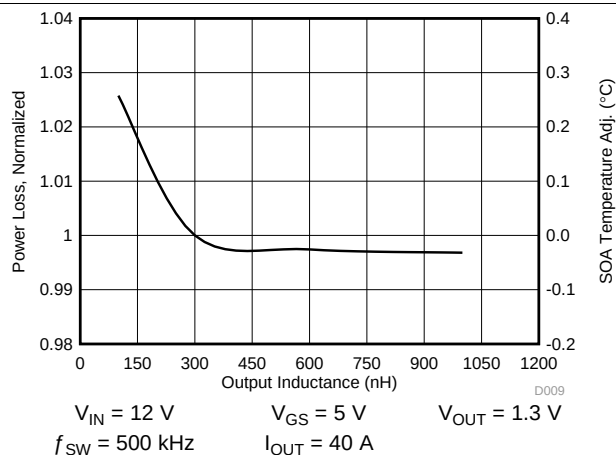

图 7. Normalized Power Loss vs Output Inductance
- Normalized power loss for output inductor ≈ 1 (图 7)
- SOA adjustment for output inductor $\approx 0.03^\circ\text{C}$ (图 7)